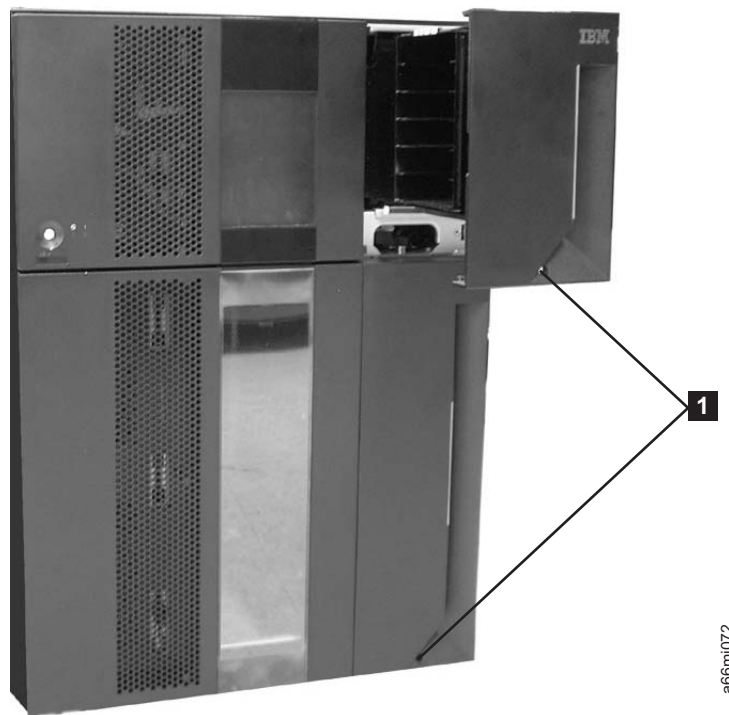

Figure 8-21. Access holes for manually unlocking I/O Station doors
There are 2 styles of I/O Station Lock mechanisms. The early style uses a T10 Torx wrench to rotate the lock mechanism. The new style has a large push-button type mechanism behind the hole (**1** in Figure 8-21) in the I/O station door.
1. Insert a T10 Torx wrench in the hole (**1** in Figure 8-21) located on the front of the I/O Station door of the library module you wish to open.
1. Insert any straight tool (screwdriver, Torx wrench, etc.) into the hole (**1** in Figure 8-21) in the front cover of the I/O station.